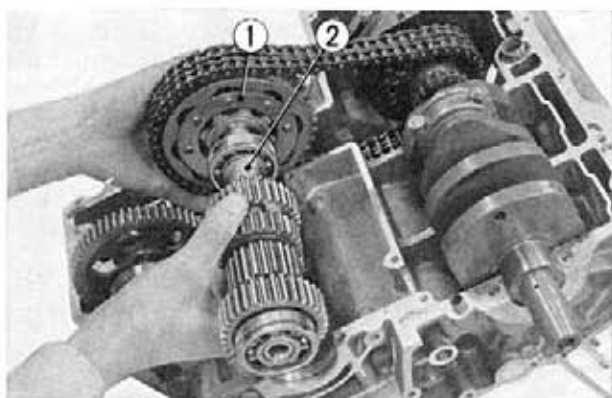

Fig. 3-75 ① Primary sprocket ② Transmission mainshaft
14. Raise the transmission mainshaft and remove the primary sprocket and then remove the primary chain from the primary sprocket. (Fig. 3-75)